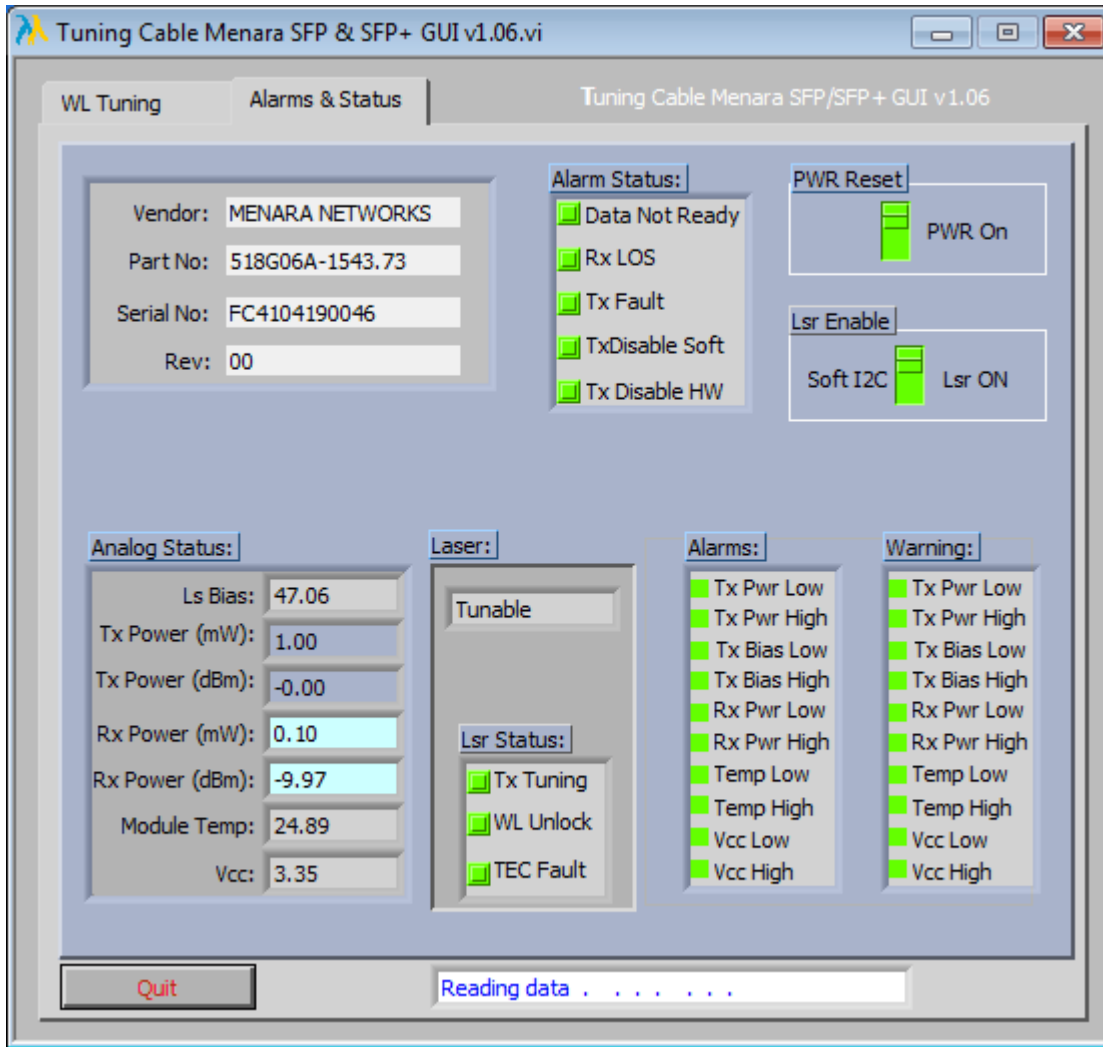

Figure 4: SFP/SFP+ Alarms & Status
3. Once the laser is enabled alarms, power levels, and warnings can be seen in the different sections as shown below in Figure 4.